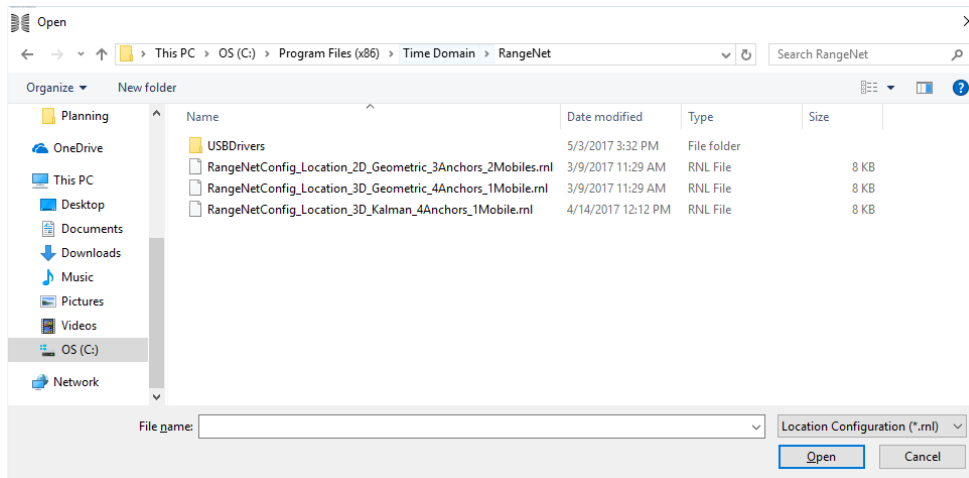

Fig. 19: Load the configuration files
2. **Load the configuration file into the units.** Before actually positioning the units, power the units and then connect to unit #100 with the RangeNet GUI. Click on the Configuration Tab, confirm that the **Write Config to Radio** box is checked, and then click the **Load From File** button. You should see the screen shown in **Figure 19**. If not, then use the browser to navigate to the directory shown. Select the file